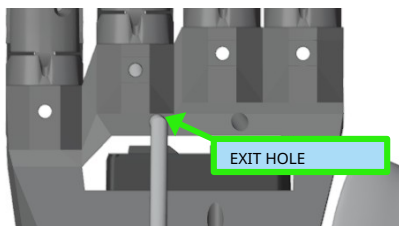
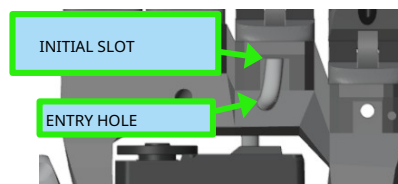

Figure 5.31: Inserting tube into the tendon exit hole (rear view)
Figure 5.32 Inserting into the initial slot (front view)
1. Insert the PTFE tube into the exit hole (on the back of the skeleton) of the flexion tendon (figure 5.31), make it come out from the entry hole on the front of the skeleton and insert it into the initial slot figure 5.32)